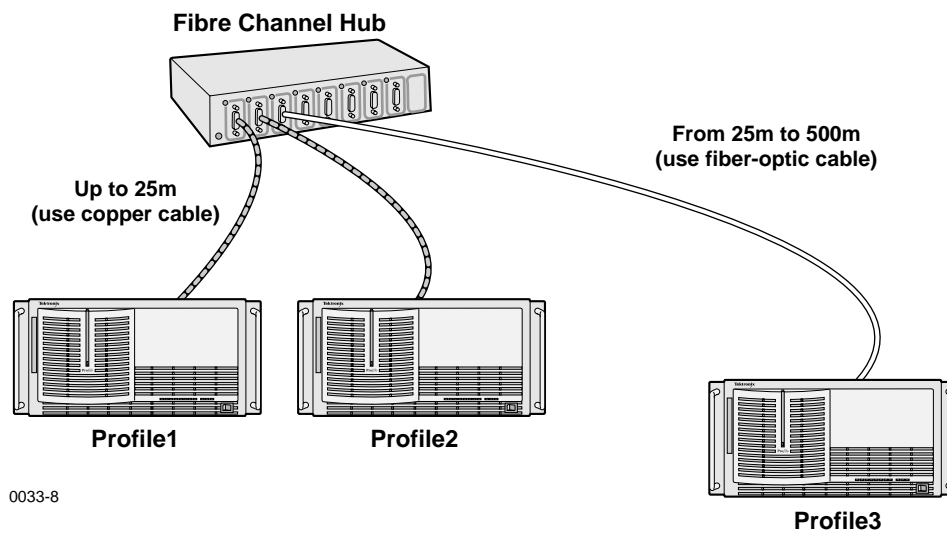
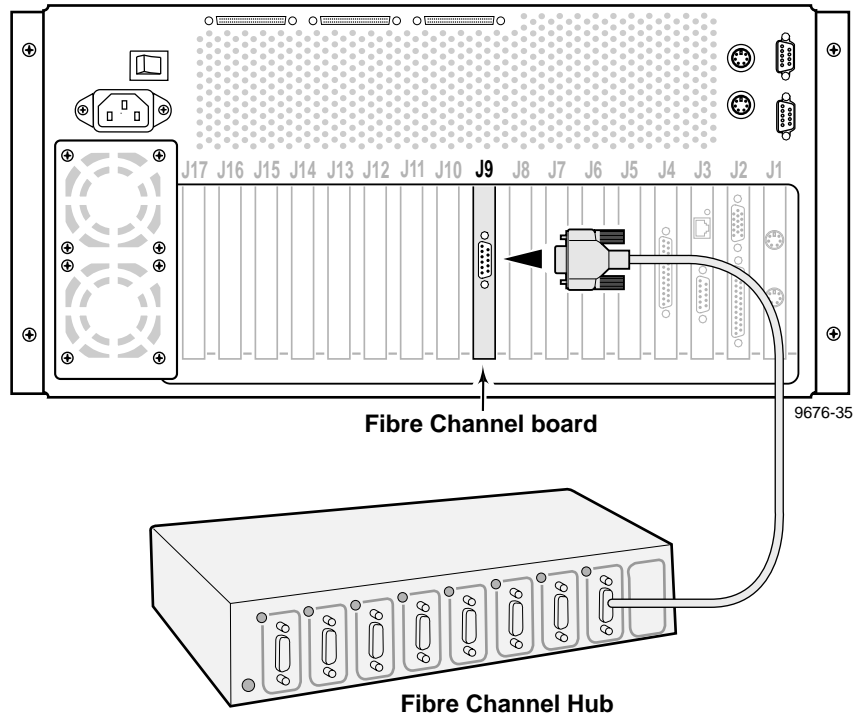

Figure 4-5. Example of Profile System and Fibre Channel Connections
Figure 4-6. Fibre Channel Board and Video Hub Connection
Figure 4-6 shows the location of the Fibre Channel board for connection of the Fibre Channel cable to the Fibre Channel Hub. See Appendix B for connector pin-out information. Referring to Figure 4-5 for an example, the Fibre Channel cable can be:
2. Connect the Fibre Channel cable from the board to the Fibre Channel hub (Figure 4-6).